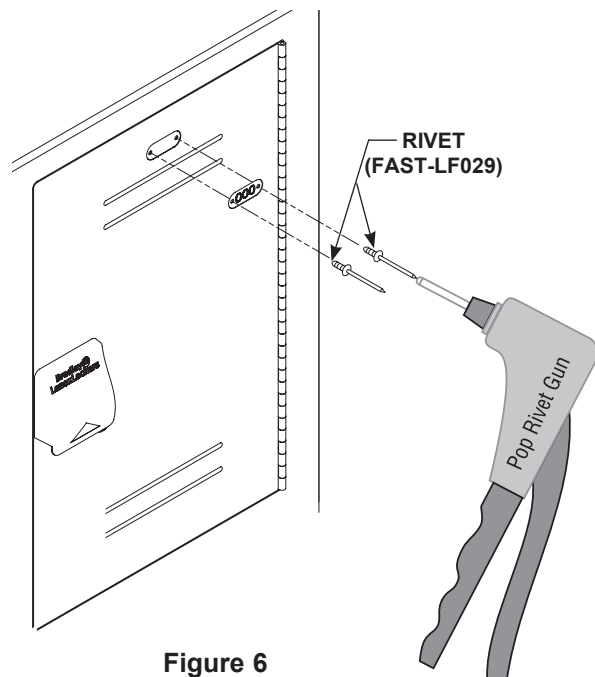

Figure 6
2. Position the number plate in the recess in the locker door (see Figure 6).